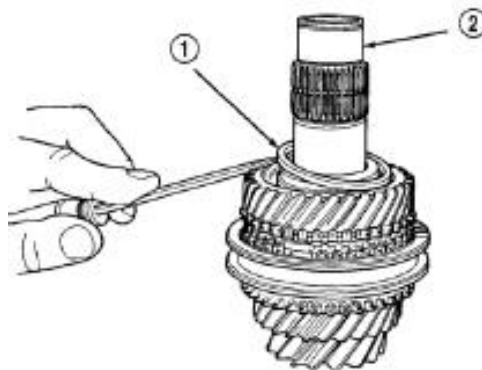

Figure 3-126 Split thrust washer stopper
(4) Remove the fourth and fifth split thrust washer stopper (Figure 3-126).